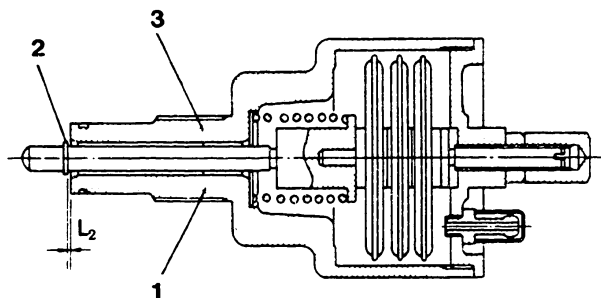

Fig. 171 Assembled dimensions of aneroid compensator
Measure the distance (dimension  $L_2$ ) between the snapping assembled with pushrod (1) and the housing. (Fig. 171)